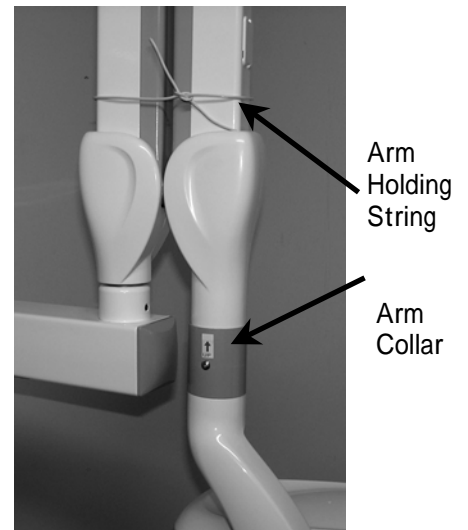

Fig. 1
5. Remove the screw which secures the arm collar. Slide the arm collar upward and temporarily hold it in position with adhesive tape. (Fig. 1 and 4)